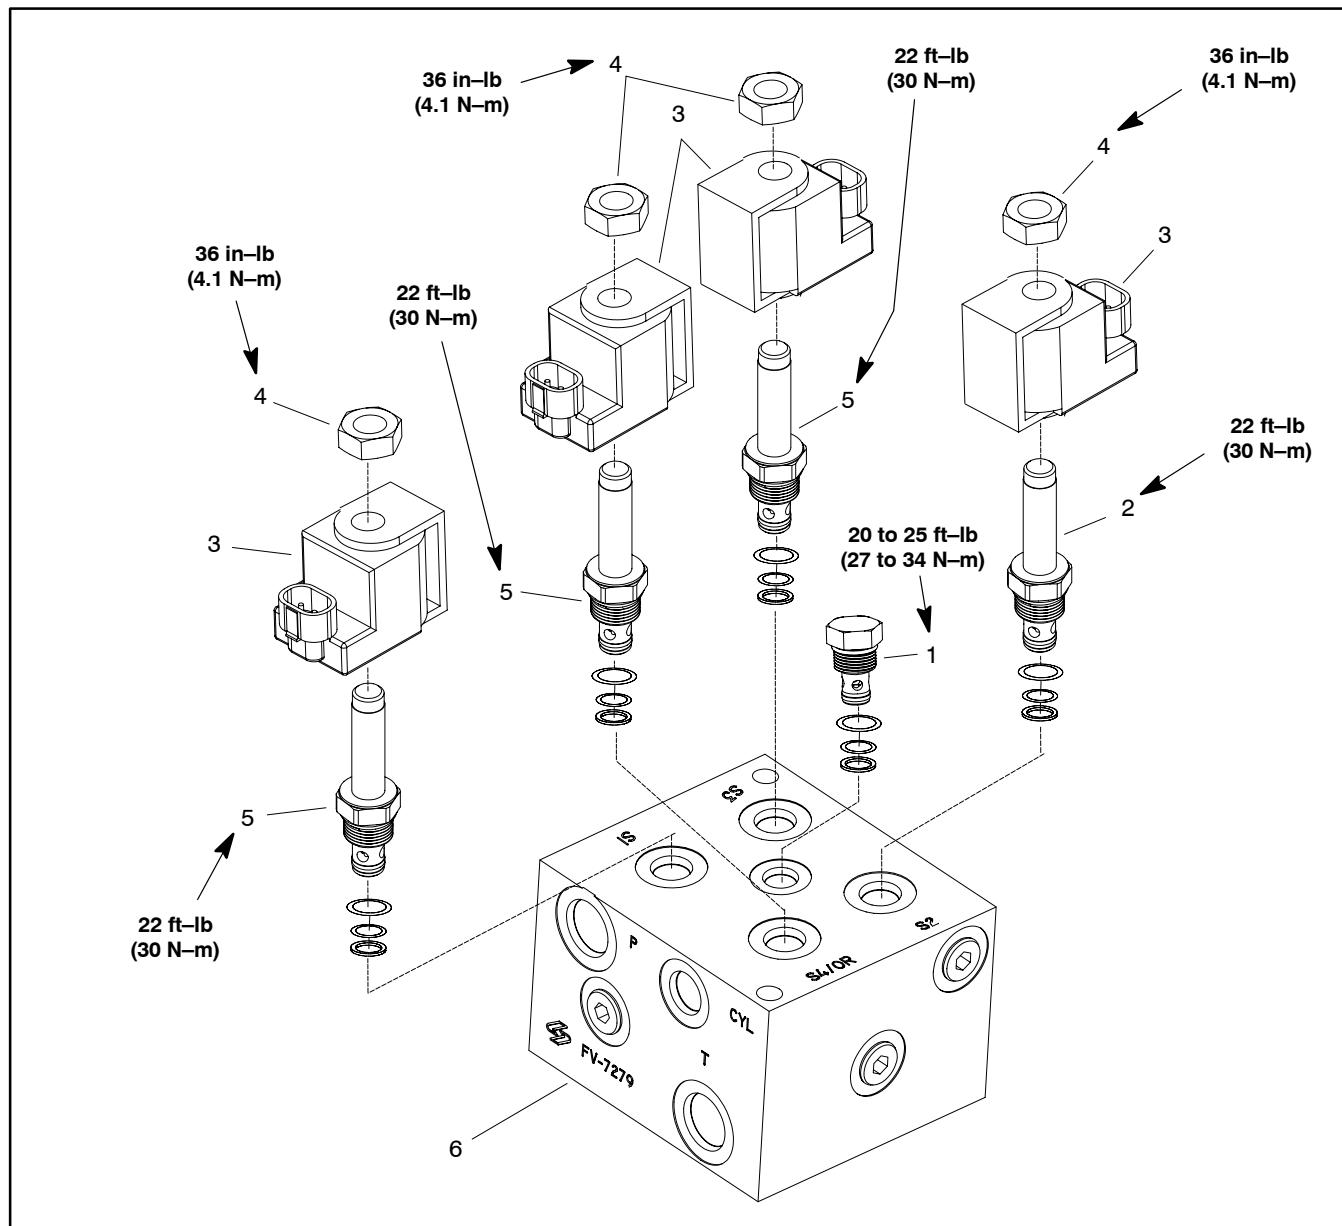

Figure 14
- C. Torque cartridge valve using a deep socket to values identified in Figure 14.